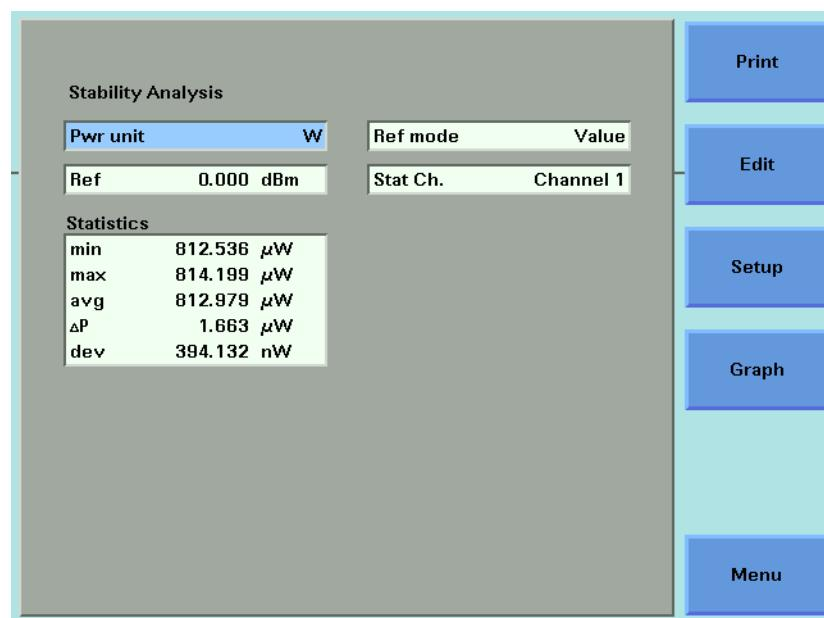

Figure 161 The Agilent 8164A/B Stability Analysis Screen
- 21 Press [Analysis]. The Stability Analysis screen appears as shown in Figure 161 for the Agilent 8164A/B and Figure 161 for the Agilent 8163B.